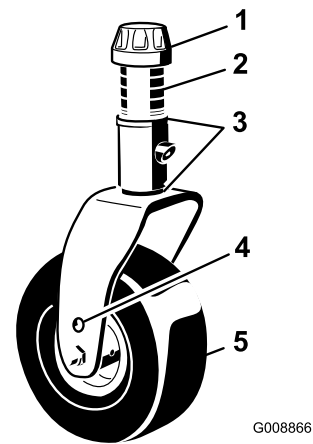

Figure 23
- Remove the tensioning cap from the castor shaft (Figure 23). and slide the shaft out of the castor arm. Put 2 shims (1/8 inch [3 mm]) onto the castor shaft as originally installed. Slide the appropriate number of 1/2 inch spacers onto the shaft to get the desired height-of-cut.
- Push the castor shaft through the front castor arm. Install the shims (as originally installed) and the remaining spacers onto the shaft. Install the tensioning cap to secure the assembly (Figure 23).